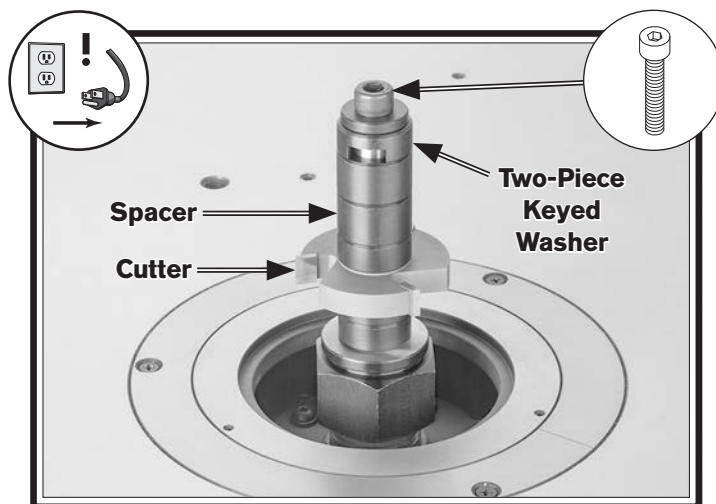

Figure 36. Typical cutter and fasteners installed.
3. Remove spindle cap screw, two-piece keyed washer, and any unneeded spacers (see **Figure 36**).
4. Place cutter on spindle (see **Figure 36**). Make sure cutter rotation will be correct for application.
5. Use spacers to suit your particular application (see **Figure 36**).
6. Place spindle two-piece keyed washer above cutter and spacers, and secure with cap screw (see **Figure 36**).